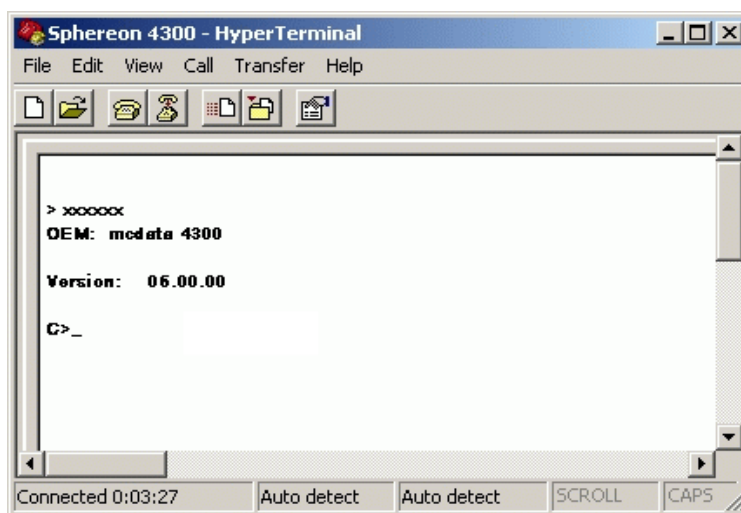

Figure 2-25 Sphereon 4300 - HyperTerminal Window
9. At the **>** prompt, type the user-level password (the default is **password**) and press **Enter**. The password is case sensitive. The *Sphereon 4300 - HyperTerminal* window (Figure 2-25 on page 2-43) displays with software and hardware version information for the switch, and a **C >** prompt at the bottom of the window.